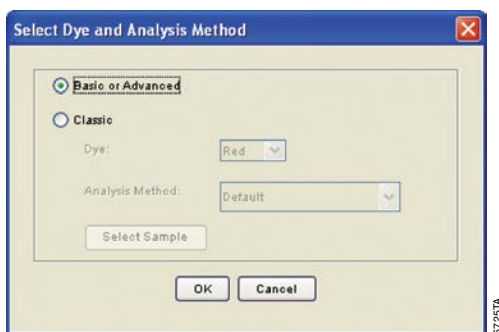

Figure 4. The Select Dye and Analysis Method window.
4. Select “Basic or Advanced” (Figure 4). The type of analysis method selected must match the type of analysis method created earlier. Select “OK”.